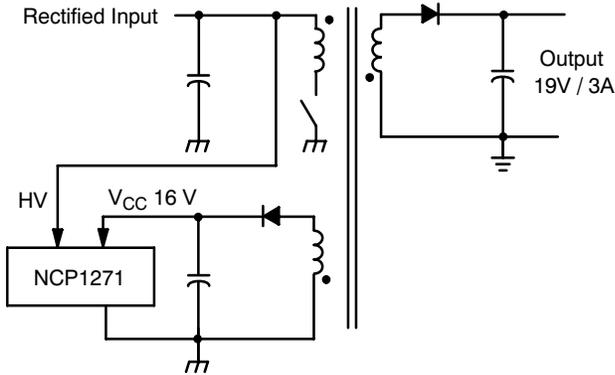

Figure 5. V_{CC} Biasing Scheme
The NCP1271 includes a high voltage (HV) startup pin (Pin 8) which charges V_{CC} to its operating level. This pin can be directly connected to the high voltage DC bus. Once the device is powered up, an auxiliary winding powers V_{CC} as shown in Figure 5.